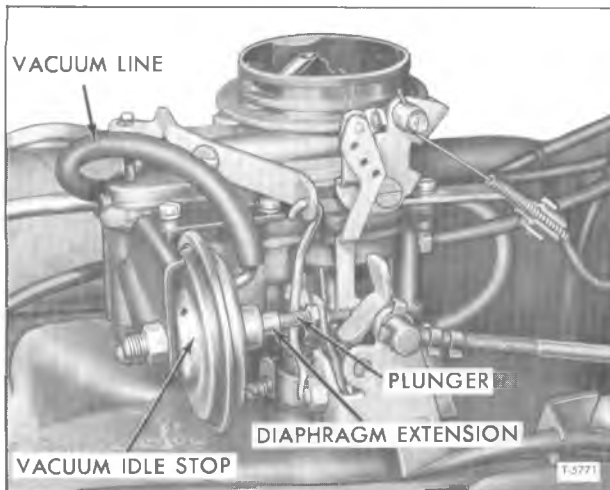

Figure 30—Vacuum Idle Stop—Bendix-Stromberg Carburetor (WW Series)
3. Disconnect and plug vacuum line to vacuum idle stop (figs. 30 and 31).
(Refer to Figs. 30 and 31)